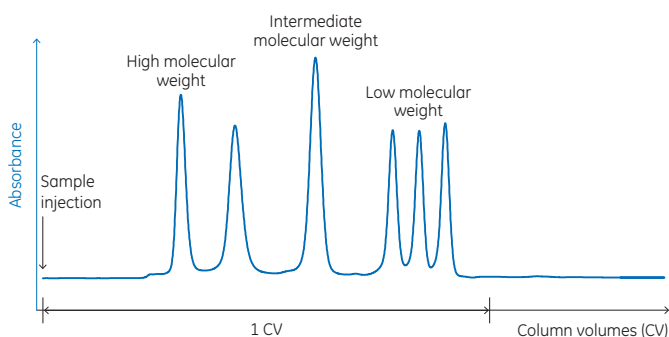

Fig 1.3. Typical high-resolution SEC separation.
1. Preparative size exclusion chromatography: a high-resolution size-based separation of biomolecules with fractionation. Preparative SEC is performed to isolate one or more components of a sample. Separated components can directly be transferred to a suitable buffer for assay or storage. Small sample volumes of 0.5% to 4% of the total column volume are applied at low flow rates using long columns, often 60 cm or longer. The particle size is commonly $> 12 \mu\text{m}$, providing low column back pressure. Resolution of preparative SEC varies from high to more moderate depending on the particle size. For optimal results, samples with few components such as those partly purified by other chromatography techniques are used. This makes preparative SEC well-suited for the final polishing step in a purification scheme; see handbook *Strategies for Protein Purification*. Figure 1.3 shows the chromatogram of a typical high-resolution separation. As the separation takes place in only 1 CV, it is essential to have a well packed column for good results in SEC. For convenience and optimal performance, prepacked SEC columns are recommended.
2. Analytical size exclusion chromatography: a high-resolution size-based separation without fractionation (Fig 1.3). Often, the analysis is connected to highly selective detectors such as mass spectrometers and photodiode arrays (DAD), as well as multiangle light scattering (MALS) or fluorescence detectors.